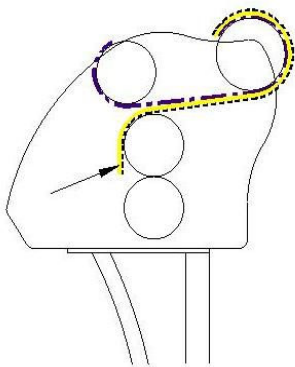

Figure 21
1. Split the film from the release liner, flip the liner back (fig.21) and pull the film evenly across the face of the rollers.